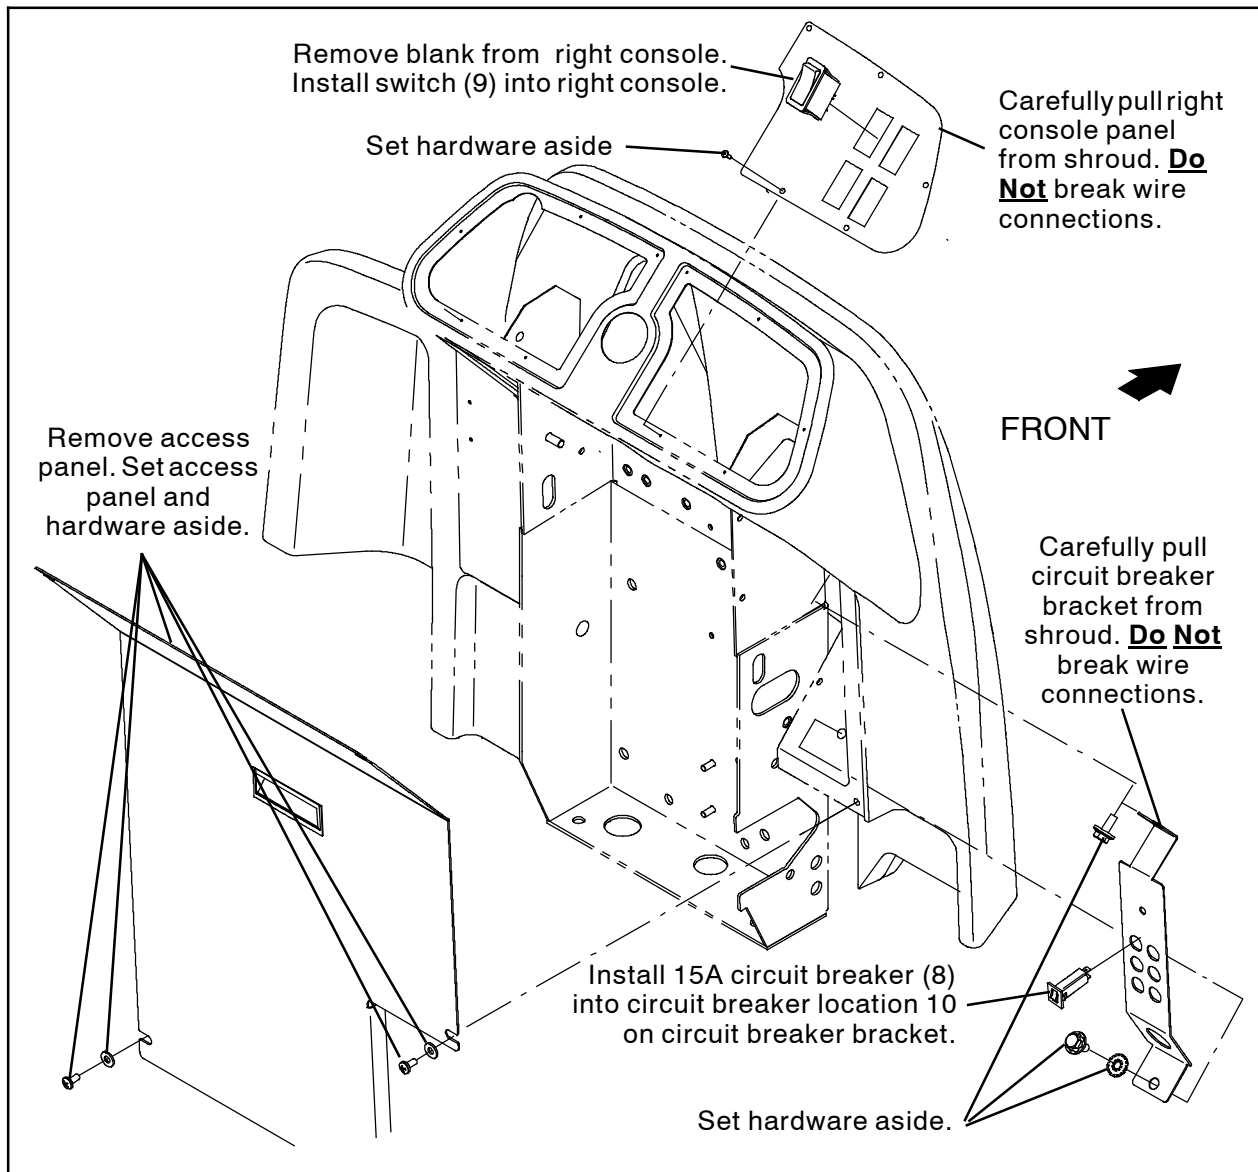
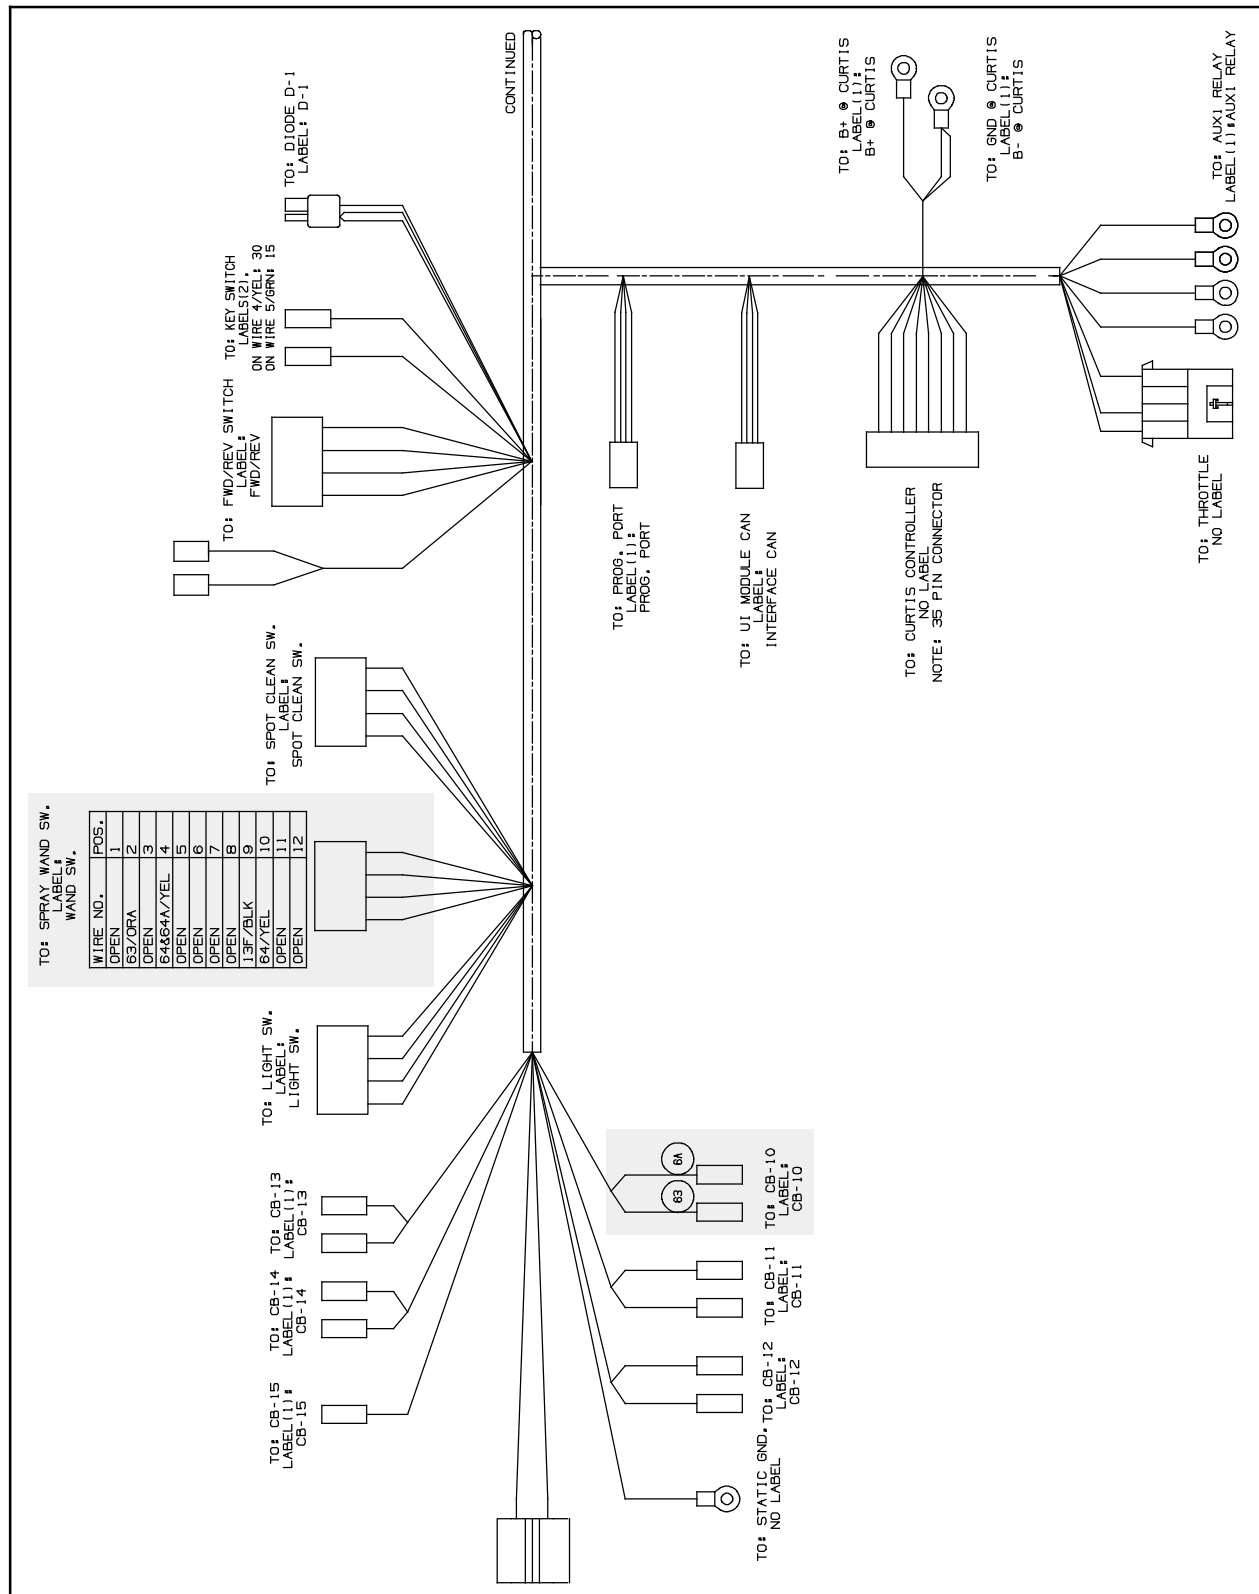

FIG. 10
FIG. 11
20. Remove the access panel from the machine. Set the access panel and hardware aside. (Fig. 10)
21. Remove the hardware securing the right console panel to the machine. Set the hardware aside. (Fig. 10)
22. Carefully pull the right console panel from the machine. **Do Not** break any wire connections when removing the right console panel from the machine. (Fig. 10)
23. Remove the blank from the right console panel and install the switch (9) into the right console panel where the blank was previously installed. (Fig. 10)
24. Connect the main wire harness to the switch (9). (Fig. 10 / Fig. 11 / Fig. 12)
25. Reinstall the right console panel onto the machine. (Fig. 10)
26. Remove the hardware securing the circuit breaker bracket to the machine. Set the hardware aside. (Fig. 10)
27. Carefully pull the circuit breaker bracket from the machine. **Do Not** break any wire connections when removing the circuit breaker bracket from the machine. (Fig. 10)
28. Remove the 15A circuit breaker (8) into location 10 on the circuit breaker bracket. (Fig. 10)
29. Connect the main wire harness to the 15A circuit breaker (8). (Fig. 10 / Fig. 11 / Fig. 12)
30. Reinstall the circuit breaker bracket onto the machine. (Fig. 10)
31. Reinstall the access panel onto the machine. (Fig. 10)